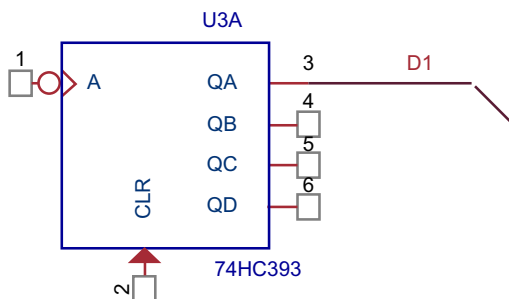

FIGURE 18.12
6. Draw a selection box around the wire, net name and bus entry point as shown in Figure 18.12.